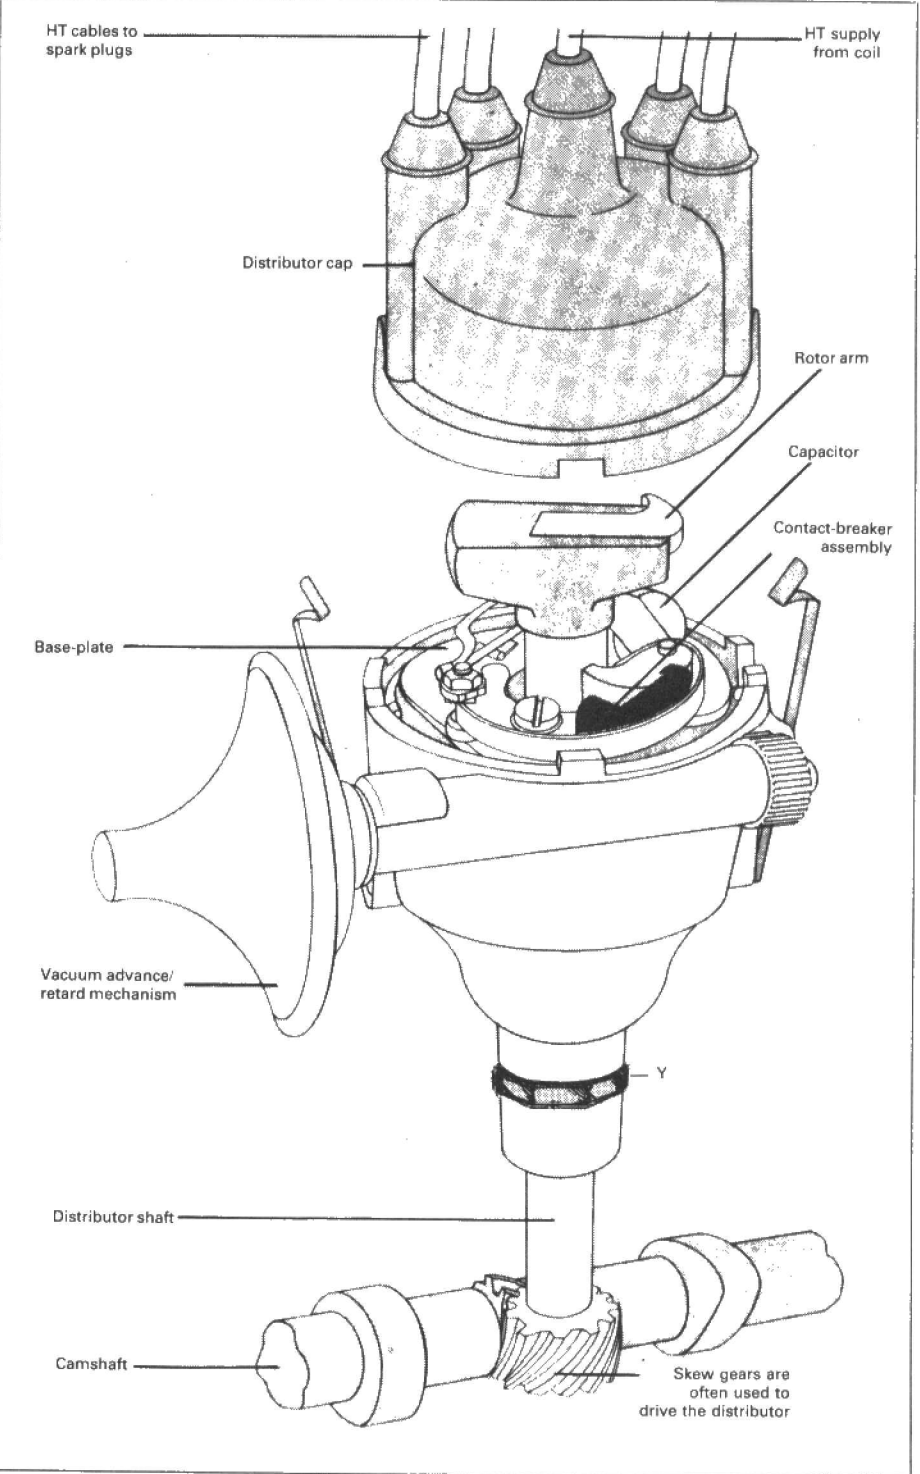

Figure 3.4. The distributor
7. If the tdc reading is incorrect, align the tdc mark, then loosen the distributor clamping nut (point Y in Figure 3.4) and turn the entire distributor anticlockwise until the light just goes out. Then turn clockwise until it just lights. Clamp the nut.